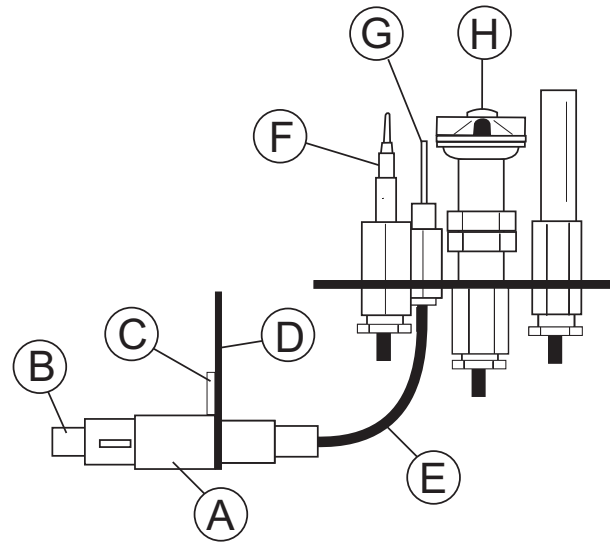

Figure 25. Pilot ignition components.
It is uncommon for the Piezo spark ignitor (fig 25-A) to fail, unless it has mechanical damage. If the spark is not conducted forward, it could be the result of a break in the electrical circuit leading up to the pilot head. The spark is small or weak if there is too much resistance from a bent wire (E), or if corrosion appears at the electrode (G) or the pilot head (H). This could result in insufficient heat to light the gas. Inspect the pilot burner by looking for damage to the individual parts. Check for damaged wires or wires crushed between plate sections of the appliance and check for loose connections.